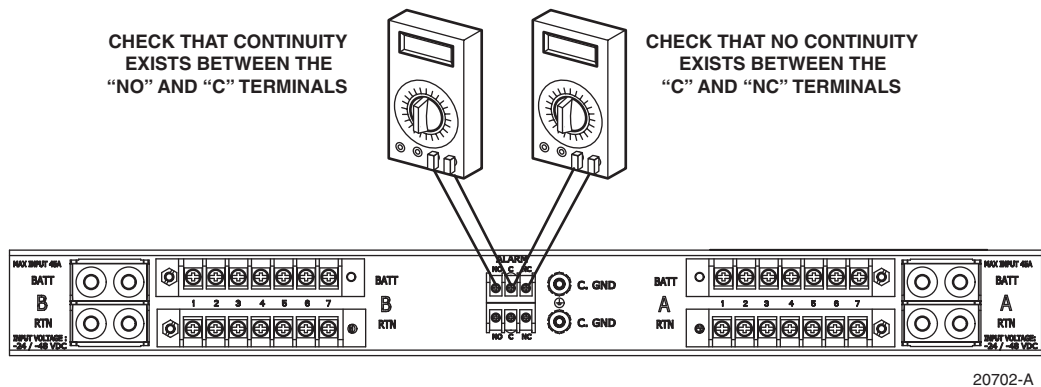

Figure 10. Test 4: Alarm Contacts
► **Note:** This procedure tests the alarm indicator contacts as they should be with no power being supplied to the panel. In this state, the normally open (NO) contacts should be closed and the Normally Closed (NC) contacts should be open.
1. Starting at the top set of alarm terminals on the right rear side of the panel, verify that no continuity exists between the C and NC terminals (Figure 10).